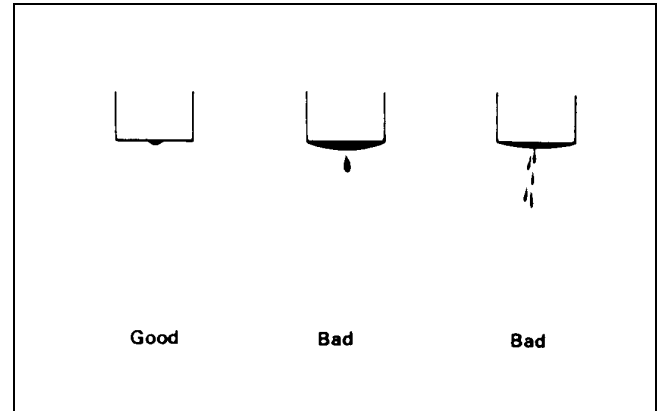

Figure 18
6. While pressure is being applied, watch for an accumulation of fuel at the tip of the nozzle (Fig. 18). A small